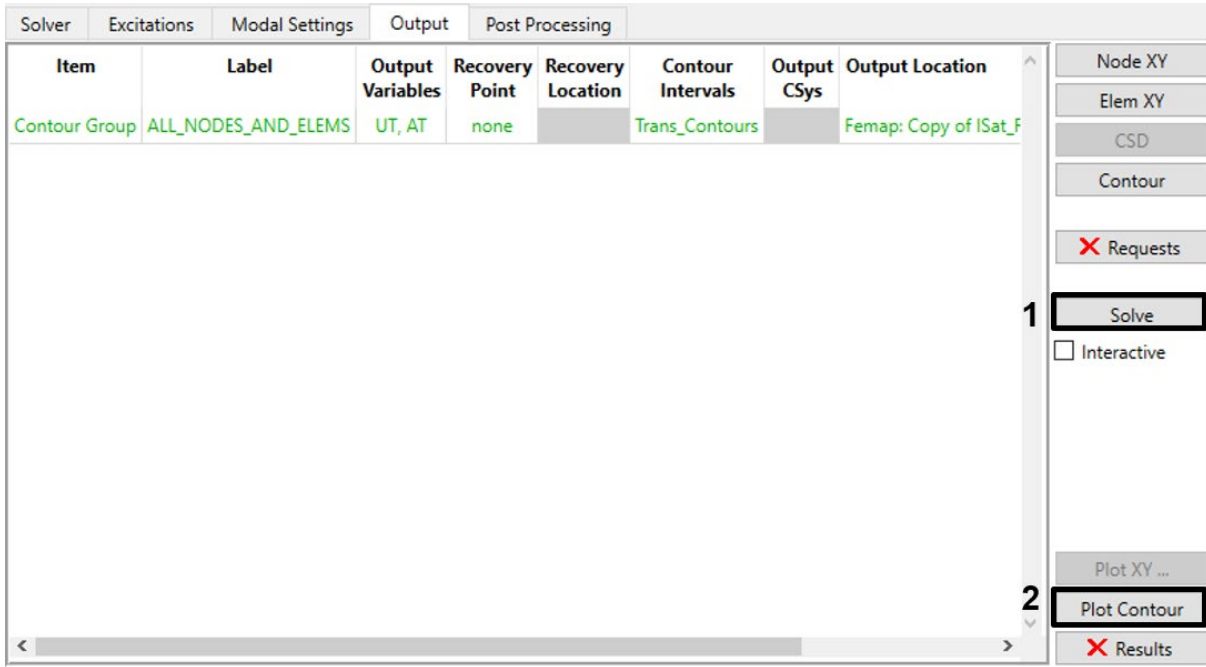
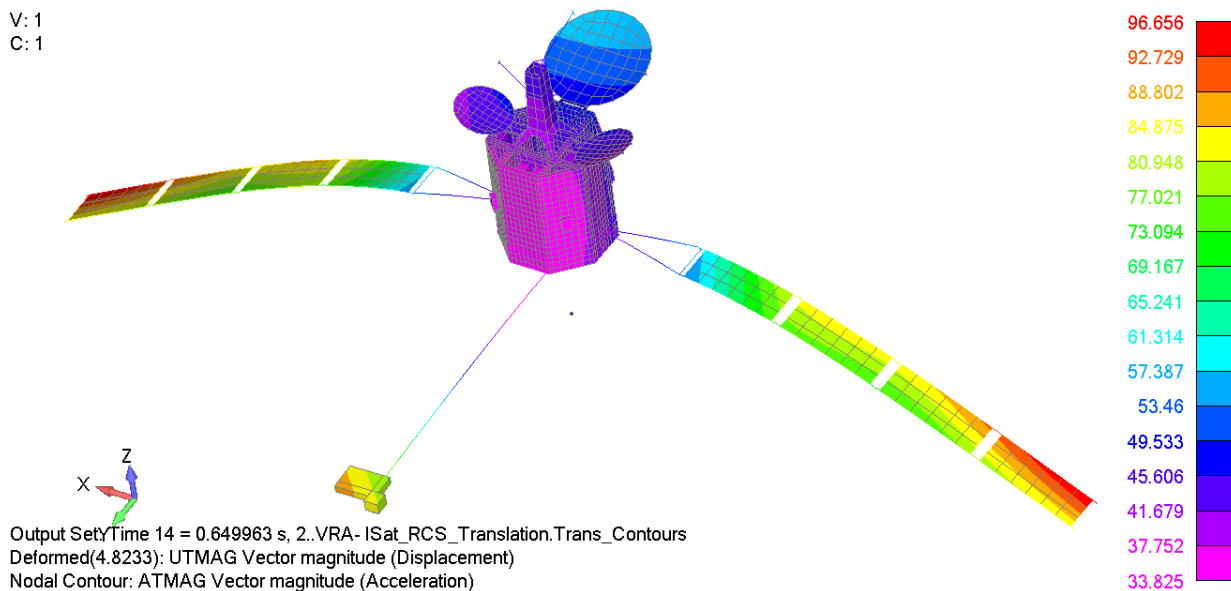

Figure 4-100. Solve for the requested contours and then plot them.
Figure 4-101. Contours of acceleration on deformed mesh for output frame 14.
- On the Output tab again, click **Solve** to compute and store the requested contours (Figure 4-100). When the solver finishes, click **Plot Contour** to view the results in Femap. You can simply double-click in Femap's graphics window to start the animation. You can also do any of the usual postprocessing operations such as showing contours of total acceleration on a deformed mesh for a specific time step, as in Figure 4-101.